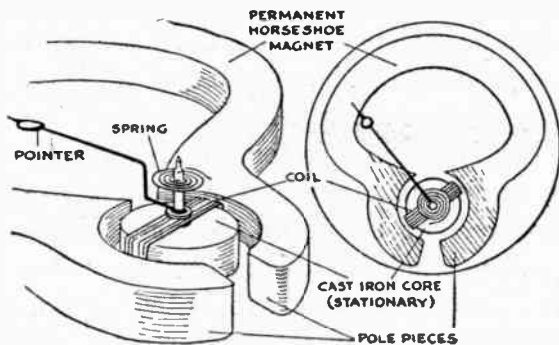

FIG. 23
**F**ROM time to time in your radio work you will find it necessary to make certain electrical measurements. This will be particularly true if you extend your hobby into the spare-time servicing of ailing receivers. Unknown resistances must be made known, voltages must be measured, and various amperages must be tested. In this part of your work, the electric meter will serve as your yardstick. Figure 23 clearly illustrates the working parts of this very useful meter.